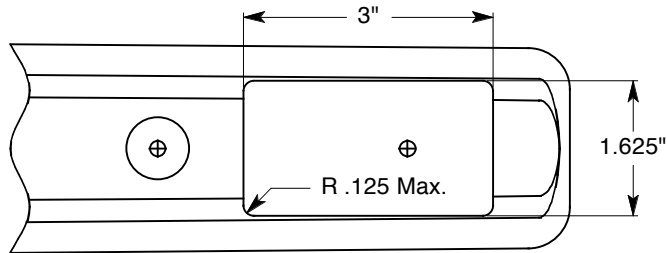

fig.1
1. Using a 1/4" dia. End mill or smaller, Mill a rectangular pocket in the forearm of the stock that corresponds with the dimensions in Figures 1&2.